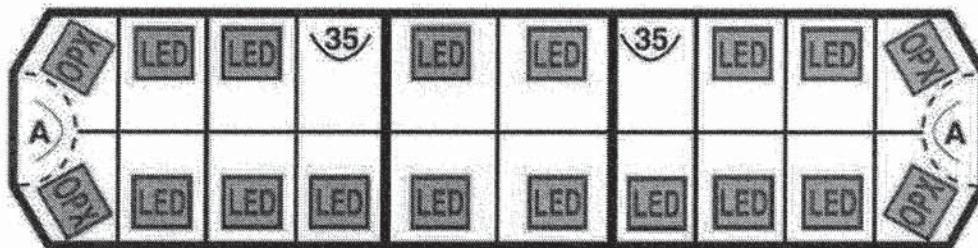

Figure 8 –
- (3). – see *Figure 8* for configuration)